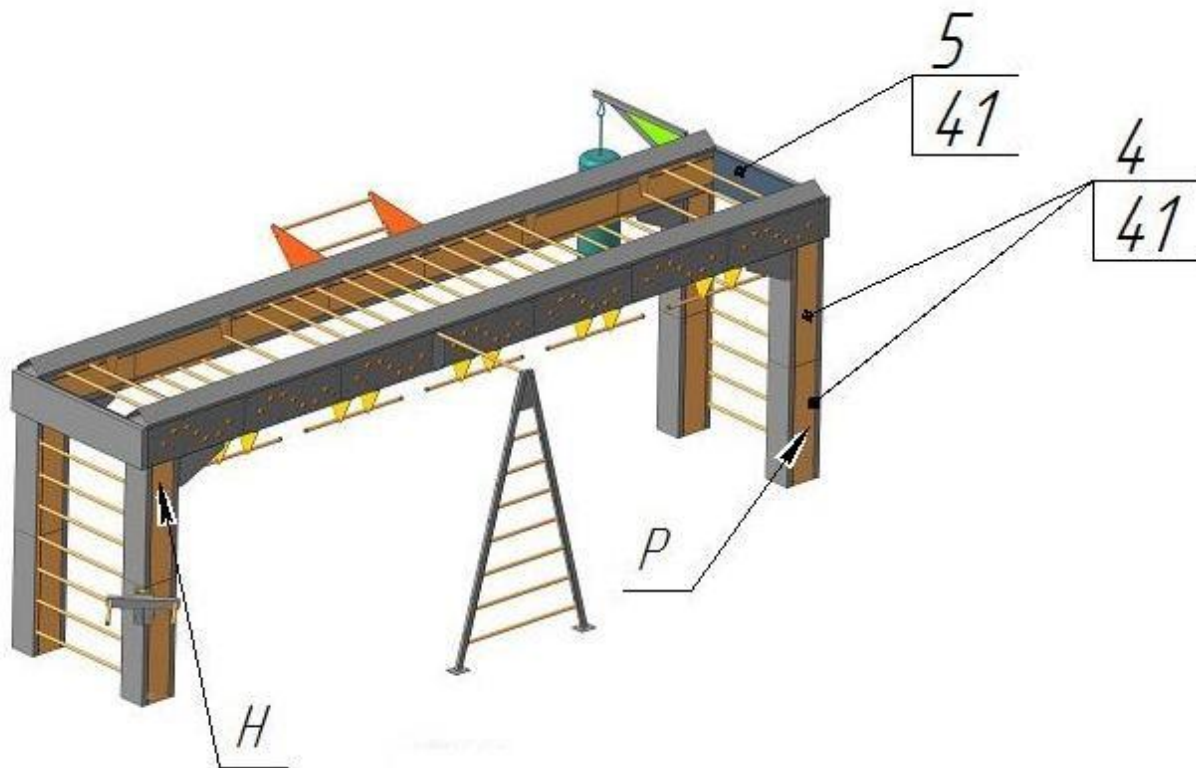

Fig 6.
- 3.11 Install trim panels № 4, 5 with the help of screws № 41 (see fig.6).